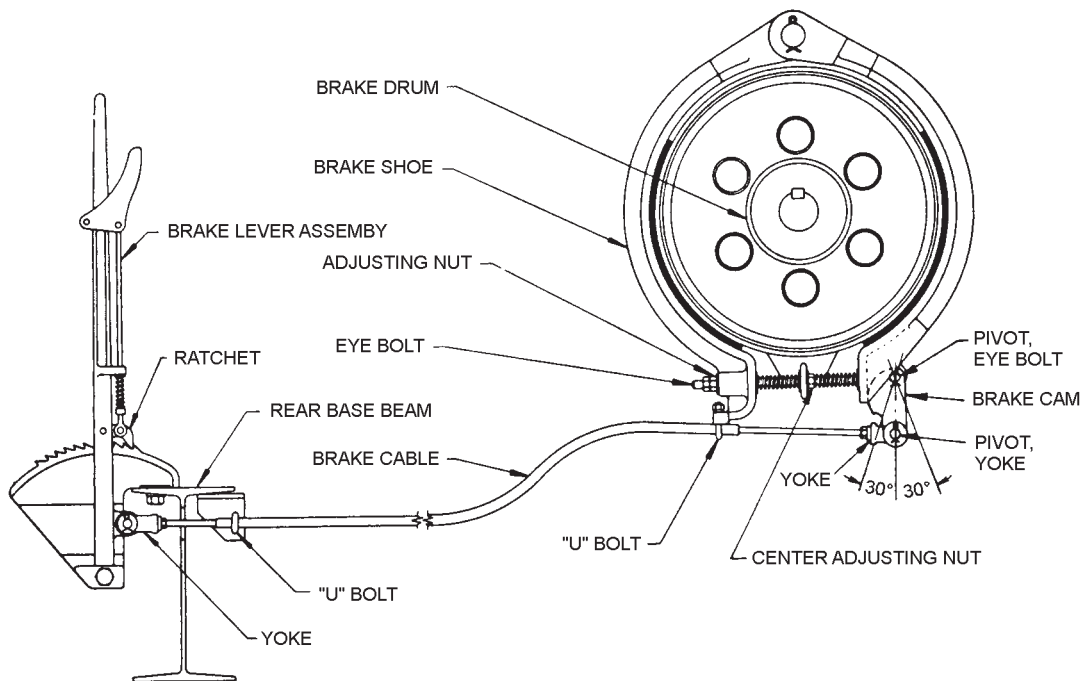

Figure 55
Some smaller and older units in the field may have the shoe type brake (see Figure 55). Before adjusting the brake, refer to Section 1.3 of this manual for proper safety precautions.
- (1) Stop the unit with the long end of the crank in the 6 o'clock position. Lockout/tagout all energy sources. Clamp the polished rod at the stuffing box. Chain the equalizer down to the sub-base.
- (2) Position the brake lever in its forward (or disengaged) position.
- (3) Adjust the position of both brake shoes by moving both adjusting nuts until both linings just clear the drum.
- (4) When the brake is disengaged, the pivot yoke of the cam should be at about a 30 degree angle to the right (see Figure 55). Simultaneously, the brake lever would be "full off", to the right of vertical.
- (5) When the brake is fully engaged, the lower end of the cam would be vertical or up to a 30 degree angle to the left (see Figure 55). Simultaneously, the brake lever has the ratchet engaged and several notches still "available" for engagement.
- (6) To achieve the proper engaged and disengaged positions of the cam and brake lever, either or both yokes can be adjusted in or out on the ends of the brake cable.
- (7) Be certain the rod end does not bottom out on the cable cover when engaging or disengaging the brake. When the yoke positions are established, tighten the jam nuts against the yokes.
- (8) Make sure the brake drum key is tight.
- (9) Unchain the equalizer and remove the polished rod clamp at the stuffing box before attempting to restart the unit.